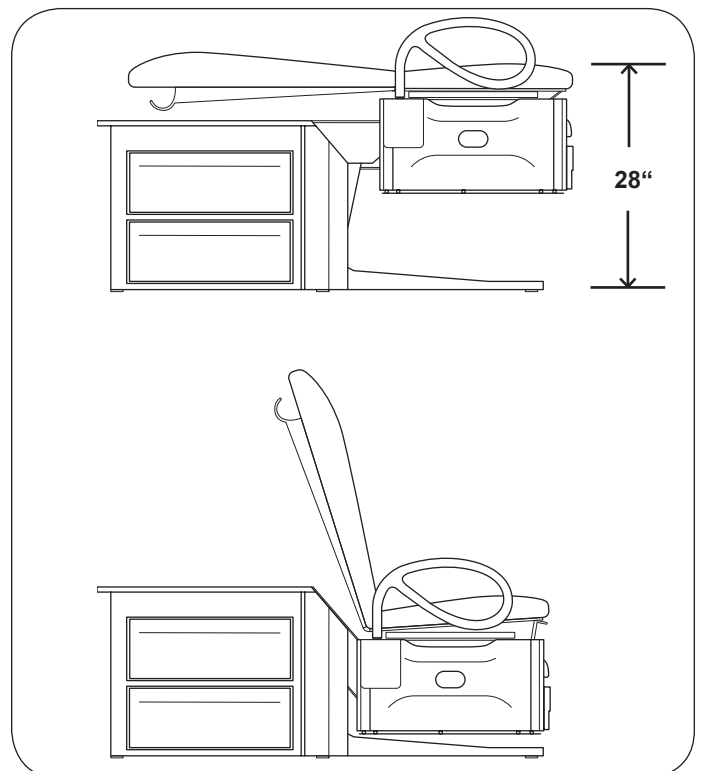

Figure 28. Adjusting Seat Back
NOTE: The table must be raised to a height of at least 28" before the backrest can be adjusted to the horizontal position. (See Figure 28.)
1. Raise the table to a minimum of 28" (Figure 28).